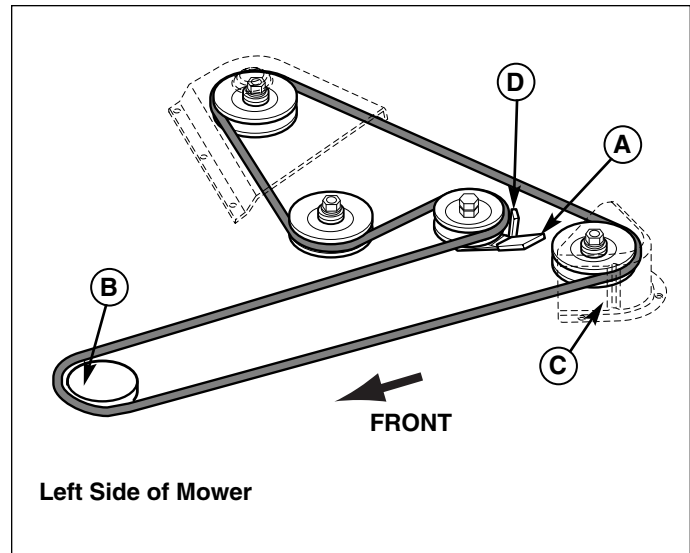

Figure 21. Typical Mower Belt Routing Three Blade Decks
3. Push the idler arm (A, Figure 21) to relieve belt tension. Drop the belt from the PTO (electric clutch) pulley.
4. Some Models: Loosen the belt stop bracket(s) (C, Figure 21).
6. Some Models: Position the belt stop bracket(s) (C, Figure 21) in their original positions. There must be 1/8" clearance between the belt stop and the pulleys.
7. Position the idler pulley belt guide (D) in its original position up against arm (A) so that there is a 1/8" gap between the pulley and belt guide.